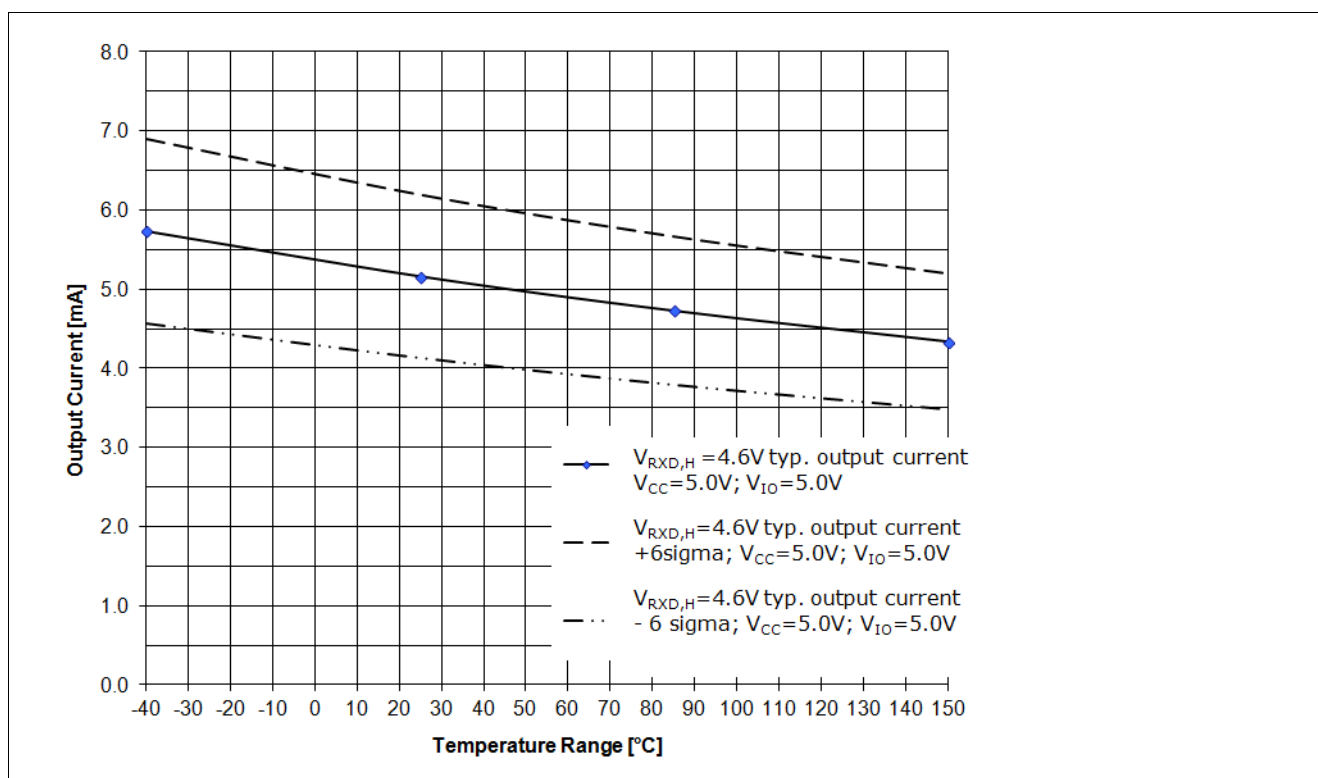
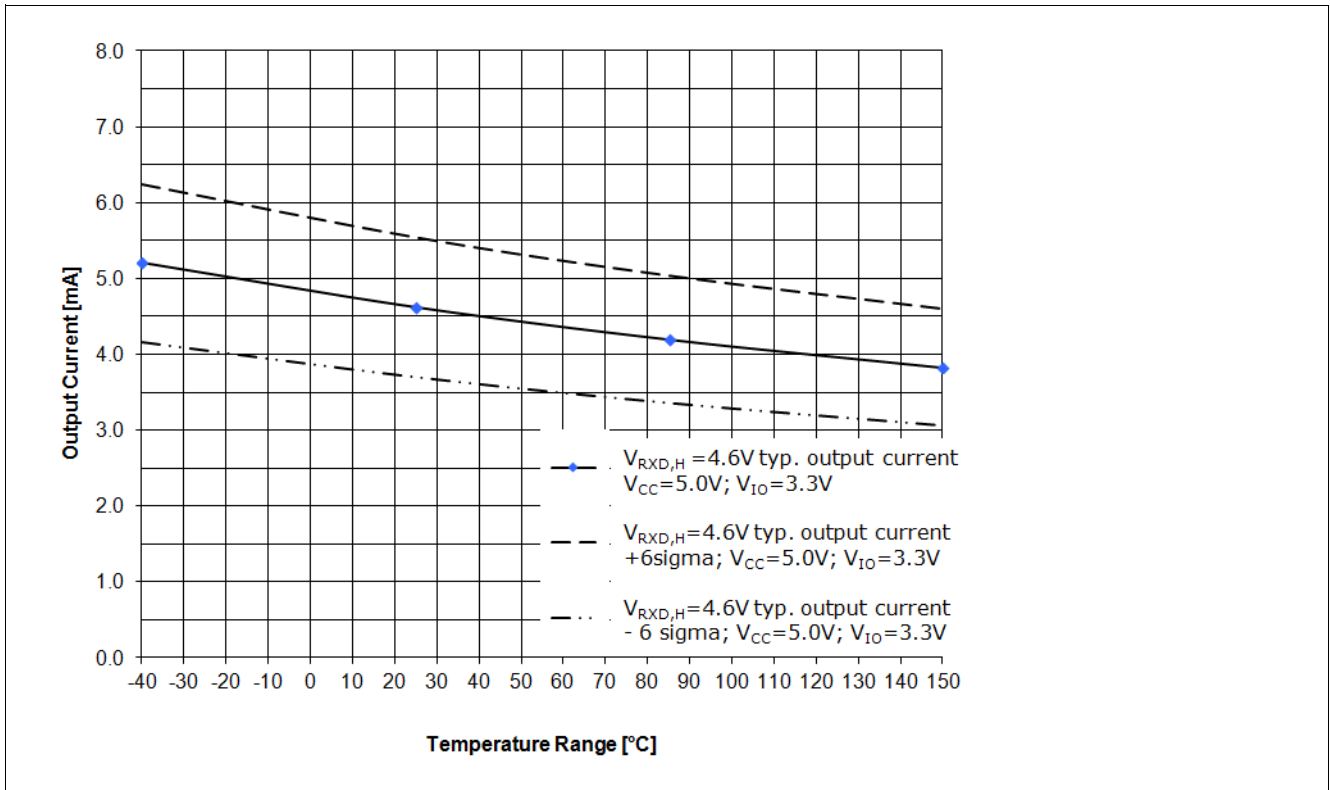

Figure 11 RxD Output driver capability for a logical “High” signal V_{RxD,H}=4.6 V, V_{CC}=5.0 V, V_{IO}=5.0 V¹⁾
Figure 12 RxD Output driver capability for a logical “High” signal $V_{\text{RXD,H}}=4.6\text{ V}$, $V_{\text{CC}}=5.0\text{ V}$, $V_{\text{IO}}=3.3\text{ V}^1$
The diagram in Figure 11 shows the output current capability of the RxD output pin depended on the chip temperature T_J at a V_{IO} power supply of 5.0 V. Figure 12 shows the output current capability of the RxD output pin at a V_{IO} power supply of 3.3 V.
- The curve “VRxD,H = 4.6 V; typ. output current; VCC = 5.0 V; VIO =5.0 V;” displays the typical output current at the RxD output pin of the TLE8250GVIO (see Figure 11).
- The curve “VRxD,H = 4.6 V; typ. output current + 6 sigma; VCC = 5.0 V; VIO =5.0 V;” displays the expected maximum value of the output current at the RxD output pin (see Figure 11).
- The curve “VRxD,H = 4.6 V; typ. output current - 6 sigma; VCC = 5.0 V; VIO =5.0 V;” displays the expected minimum value of the output current at the RxD output pin (see Figure 11).
- The curve “VRxD,H = 4.6 V; typ. output current; VCC = 5.0 V; VIO =3.3 V;” displays the typical output current at the RxD output pin of the TLE8250GVIO (see Figure 12).
- The curve “VRxD,H = 4.6 V; typ. output current + 6 sigma; VCC = 5.0 V; VIO =3.3 V;” displays the expected maximum value of the output current at the RxD output pin (see Figure 12).
- The curve “VRxD,H = 4.6 V; typ. output current - 6 sigma; VCC = 5.0 V; VIO =3.3 V;” displays the expected minimum value of the output current at the RxD output pin (see Figure 12).